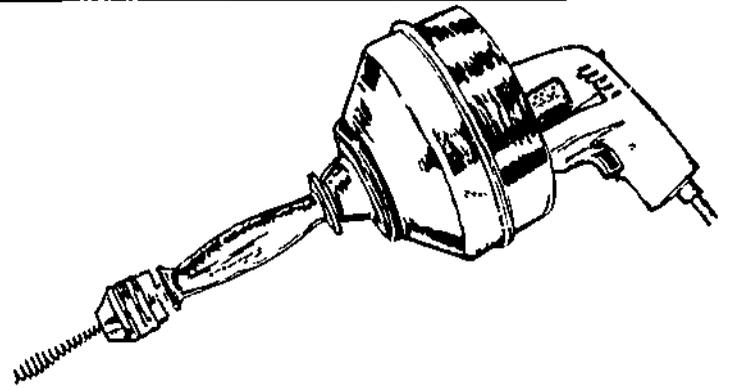

Figure 23-21. Portable Electric Drain Cleaner
71. The portable electric drain cleaner shown in Figure 23-21 is one of the types used to clean small-diameter drains such as are installed for lavatories, laundry tubs, bathtubs, and shower stalls. It can be inserted through such openings as a PO plug on a lavatory and operates as easily as an electric drill. The manufacturer claims it will clean small-diameter drains without having to remove the trap.